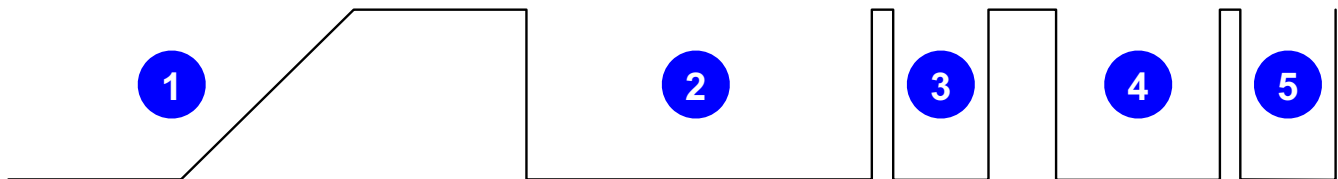

图 9-1. Power Up Best Practice
图 9-1 illustrates the best practice for dealing with initial power on ramps, shown as (1) in the figure, that may be long in duration. The host should issue a “hard” reset, (2), of > 5 ms, which resets the device and generate a presence delay and presence pulse, (3). After that, a “soft” reset of approximately 480 μ s can be applied, (4), which also generates a high presence delay and low presence pulse, (5).